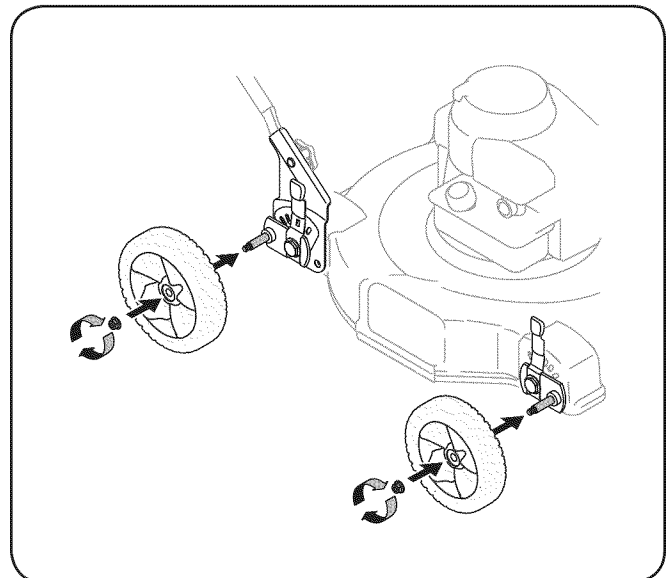

Figure 3-7
2. Place the larger two wheels on the rear pivot arm axles and secure with the flanged lock nuts. See Fig. 3-7.
3. Repeat with the two smaller wheels on the front pivot arm axles. See Fig. 3-7.